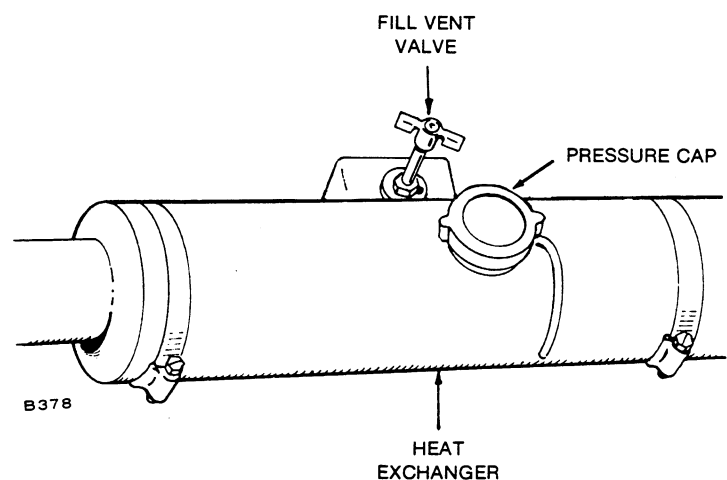

FIGURE 19. FILLING HEAT EXCHANGER
2. Open the fill vent valve (Figure 19).